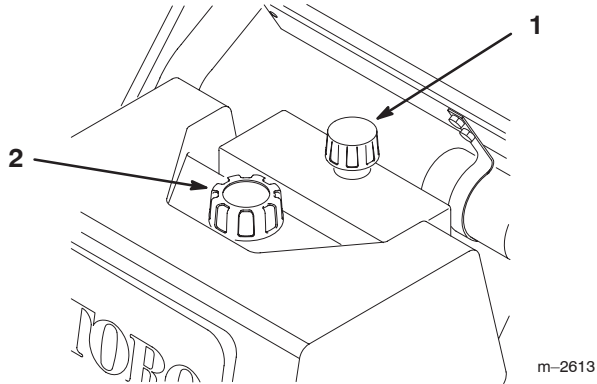

Figure 31
2. Clean area around filler neck and cap/dipstick of hydraulic tank (Fig. 31).